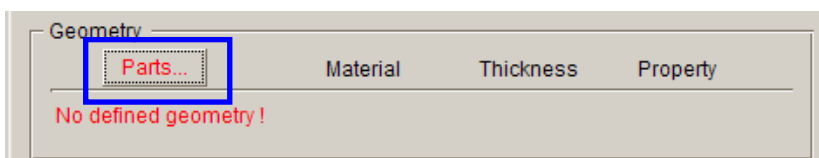
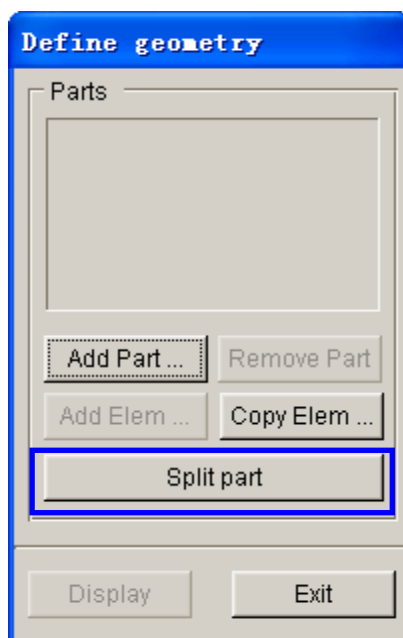

Figure 5.25 Define blank
Figure 5.26 Define geometry dialog box
2. Then, click **Parts...** button from **Geometry** in blank definition interface. See Figure 5.25. The program will pop up the DEFINE GEOMETRY dialog box illustrated in Figure 5.26.